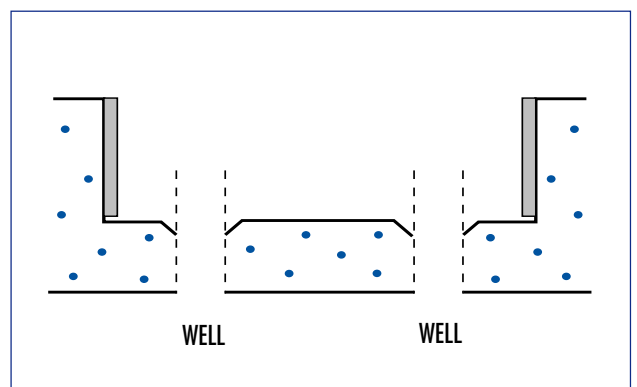

Fig. 6: Setting up a model of draining a lake or polder
- *Draining of a polder or lake. (Fig. 6)*
A large rectangular ring is used to create a polder or lake. Water flowing into a ditch near the wall is drained via the two wells. The experiment differs from the de-watering of a site as drainage takes place from the floor of the polder. Fig.6 shows the construction.